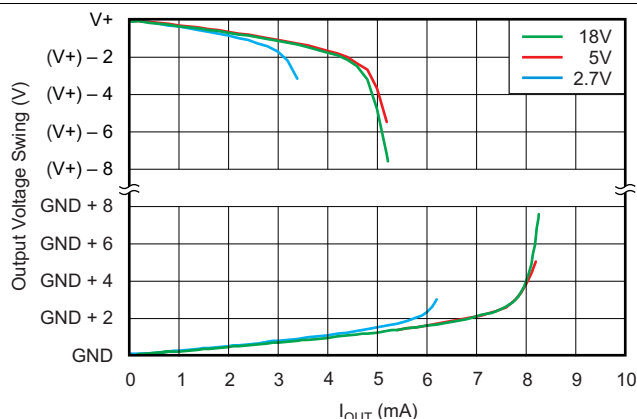
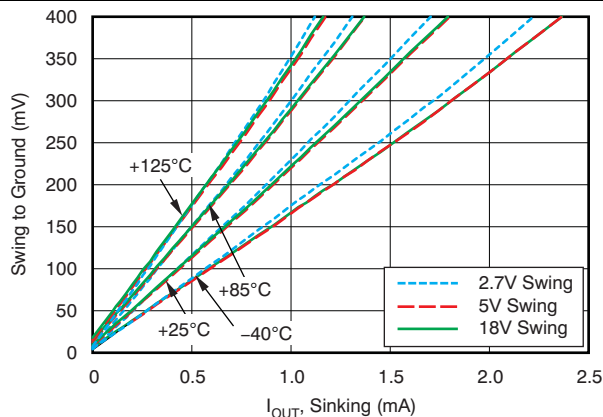

Figure 16. INA284 Output Voltage Swing vs Output Current
Figure 18. INA283 Swing to Ground vs Output Current
(6) See typical characteristic graphs Figure 16 through Figure 18.